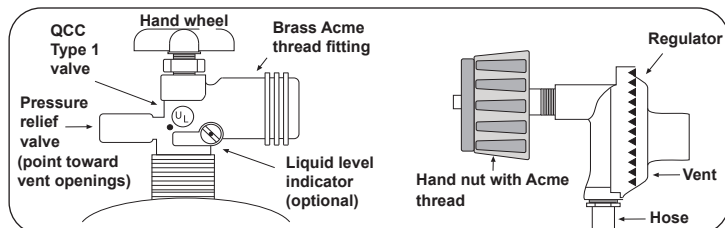

Fig. 7-1 Type I Acme thread coupler
- The pressure regulator and hose assembly (Fig. 7-1) *supplied* with this outdoor gas appliance (L.P. models only) must be used. Original and replacement pressure regulator and hose assemblies must be those specified by the manufacturer for connection with a cylinder connecting device identified as Type I by the *ANSI Z 21.58/CGA 1.6* (see PARTS LIST for ordering information).
**To disconnect:** Turn the hand nut counterclockwise until detached (Fig. 7-1).